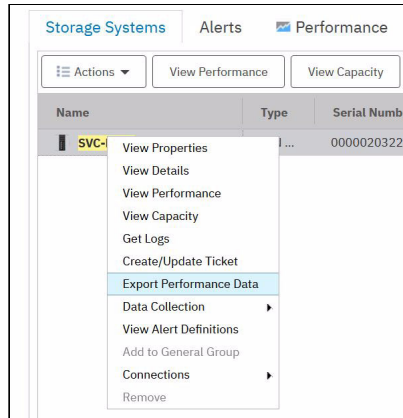

Figure 9-84 Selecting Export Performance Data
2. Right-click the storage system and select **Export Performance Data** (see Figure 9-84 on page 547).